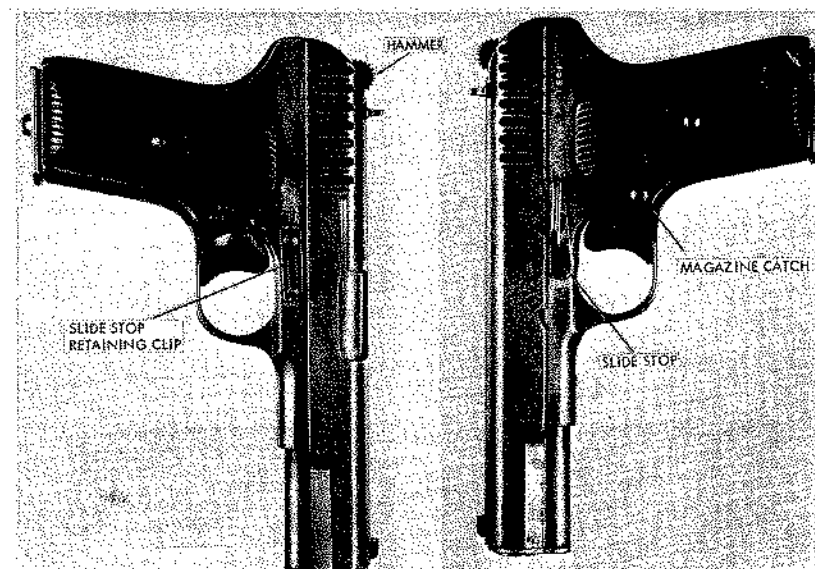

Figure 6. Soviet Tokarev pistol (TT-33).
a. The Tokarev (TT-33) pistol (fig 6) is obsolete in the Warsaw Pact Armies; it has been generally replaced by the Makarov pistol. The TT-33, and copies thereof, are still in extensive use by most Asian Communist nations and by Yugoslavia. The Tokarev is known to have been produced in the Soviet Union, People's Republic of China, Hungary, Poland, and
Yugoslavia. These pistols are all remarkably similar, but can be identified by certain features. The Soviet TT-33 and Polish Pistolet TT are identical except for their grips; the Soviet pistol (fig 6) has an encircled star with the letters CCCP, while the Polish pistol (fig 7) has a triangular-shaped monogram with the letters FB on its grips. The North Korean Type 68 pistol, while based on the Tokarev design, is sufficiently different to warrant separate treatment (subsec E).
fire one shot each time the trigger is pressed. When the last round is fired, the slide will remain open. Remove the magazine by pressing the magazine catch inward (fig 6). Close the slide by pressing down on the slide stop (fig 6) or, after removing the magazine, pull the slide slightly to the rear and release it.
(3) Use the base of the magazine to press the slide stop retaining clip (fig 6) to the rear and to free the slide stop. Pull the slide stop to the left, out of the receiver.
(4) Invert the pistol and draw the slide forward off the receiver.